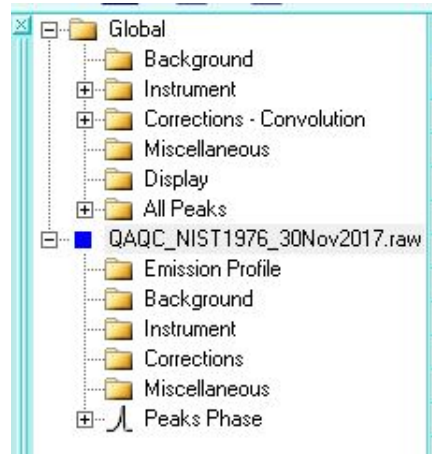

Figure 6. Parameter Window featuring Peak Phase at the end of selected range
3. The peaks now appear in the Parameter window within the range (scan) under 'Peaks Phase' (Figure 6). To delete any peaks right-click on the peak and select 'delete nearest peak'.